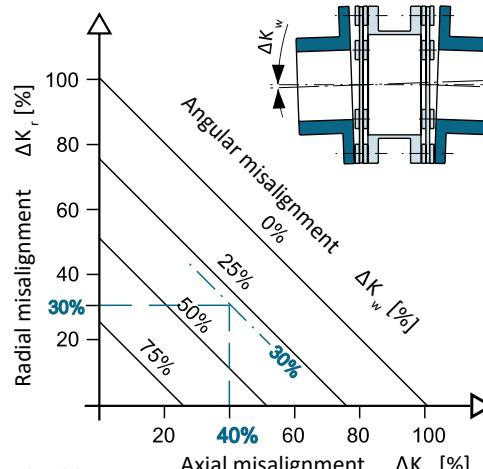

Fig. 93
- If more than one misalignment type occurs simultaneously, they affect each other. The permitted misalignment values are dependent on one another, see Fig. 93. The sum of the actual misalignments – in percent of the maximum value– may not exceed 100 %.
Example (see Table on page 26 and Fig. 93):